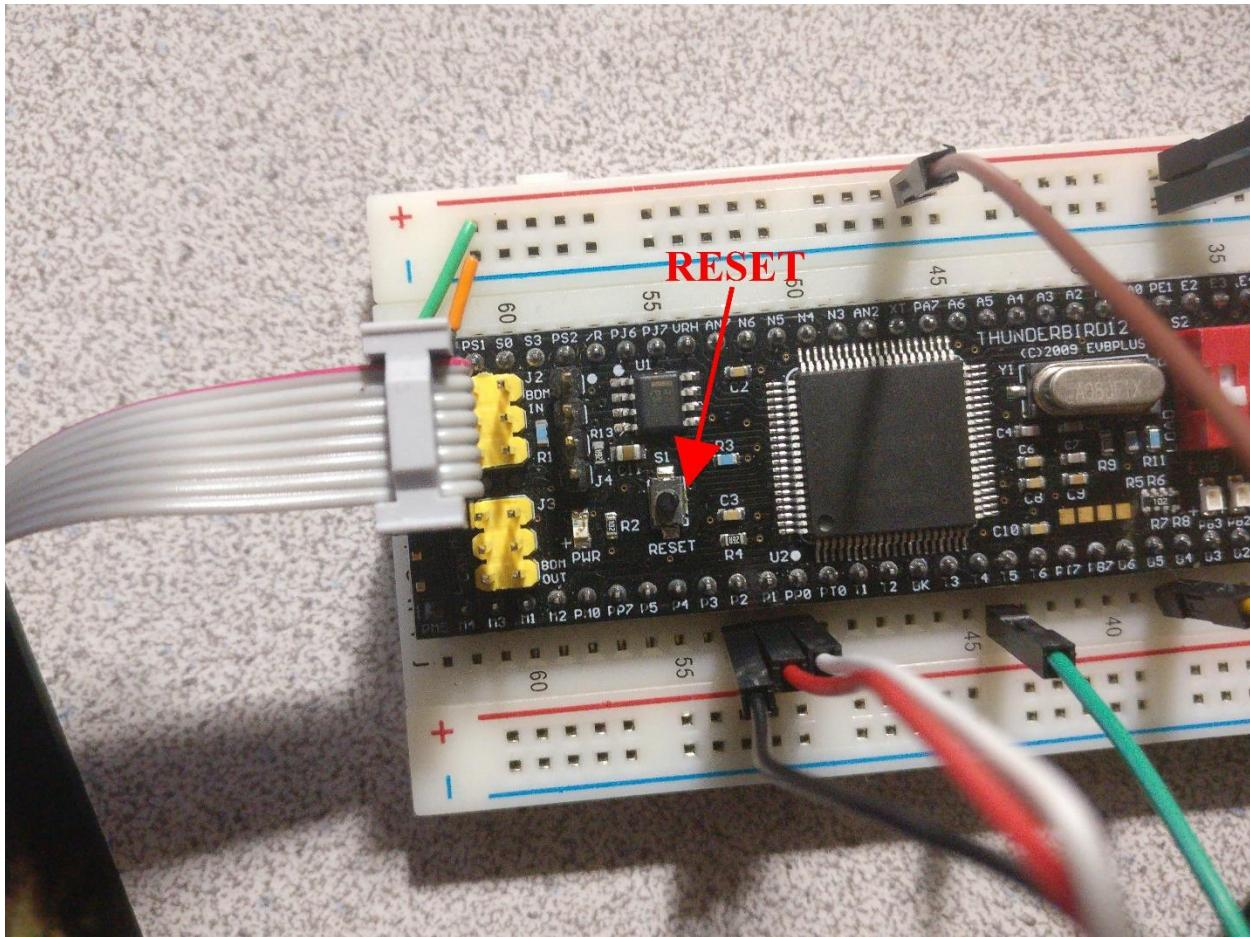

Figure 10-1 – RESET button on Thunderbird12
2. Press the button labeled “RESET” on the Thunderbird as shown in Figure 10-1.